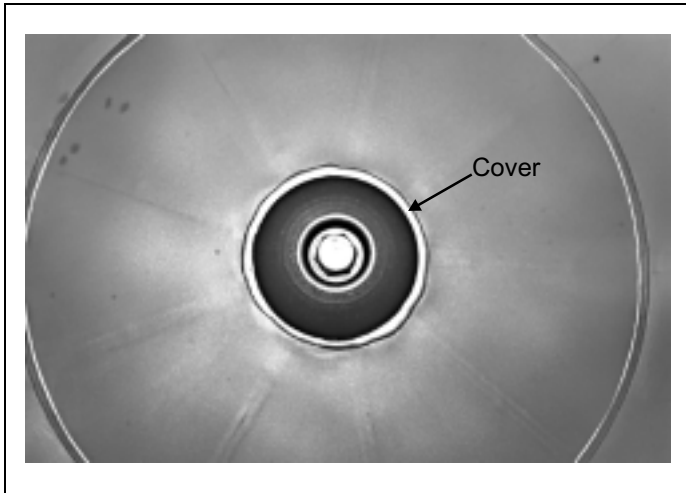
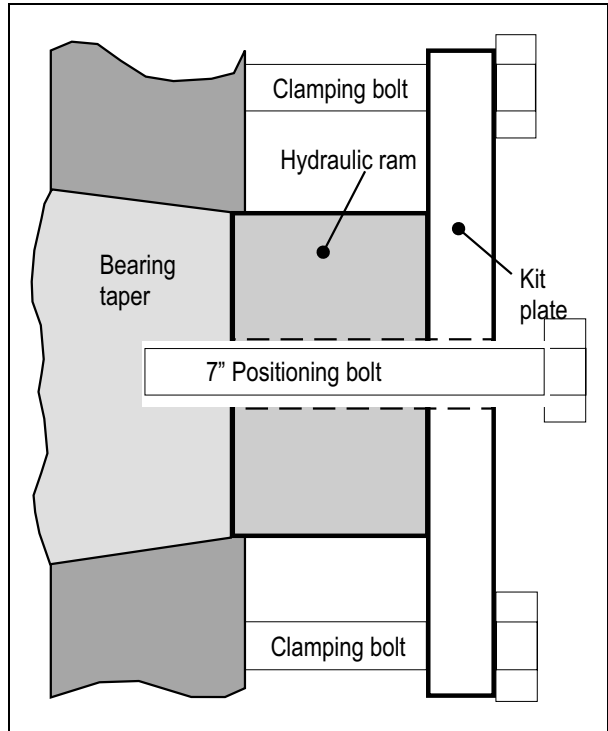
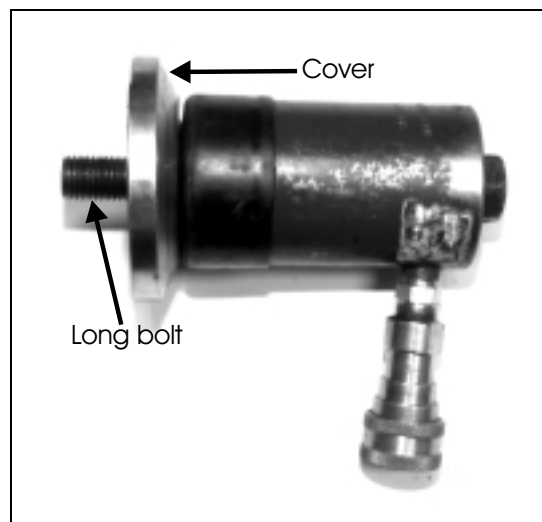

FIGURE 3
FIGURE 4
FIGURE 13 (MSSM0285AE)
2. Remove the cylinder retainer bolt (FIGURE 3), cover, spacer and the two allen screws covering the puller mounting holes. Mount hydraulic ram to the cylinder using the 7" positioning bolt and kit plate as shown in Figure 4. Connect hydraulic pump to ram.
Assemble the hydraulic ram as shown in Figure 13. Use the cylinder retainer bolt cover (Figure 3), and the 7" long positioning bolt from the cylinder puller kit.